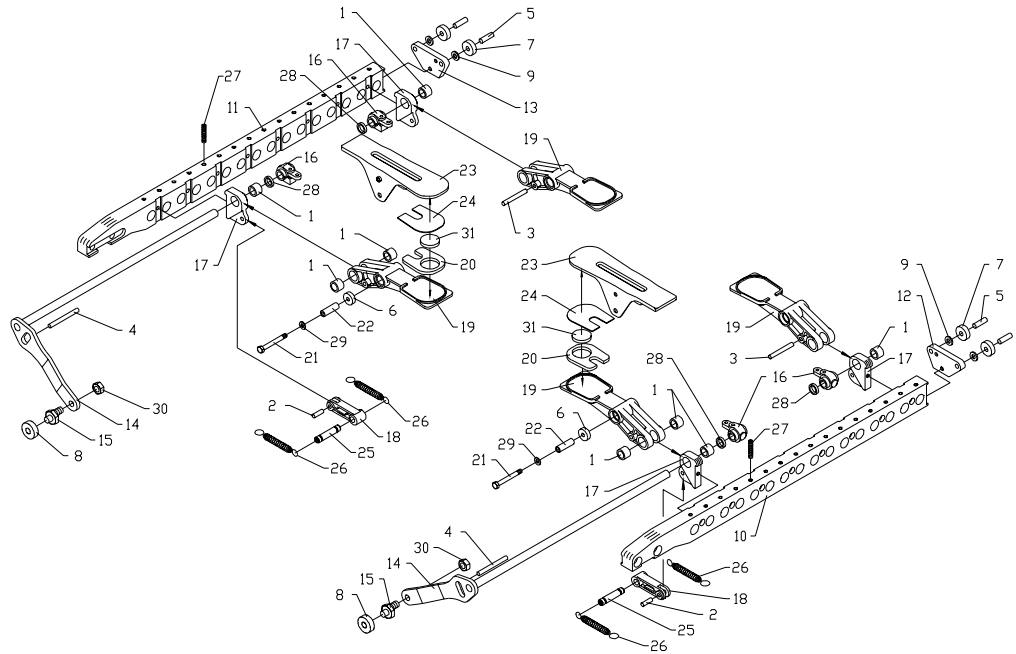

Figure 8-12
2. Remove the old pad (item 20 or 24 in Figure 8-12) by carefully lifting a corner of the pad and peeling it off. The pad should come off in one piece.
2. Remove the old disc (item 17 in Figure 8-12) by carefully prying it off with a flat head screwdriver.
2. Remove old spring (item 26 in Figure 8-12) if necessary.
3. Apply a liberal coating of CPI Grease Type GRS-460-F (p/n 82909400A) to the pivot points (item 21 in Figure 8-12) where the spring is attached.
4. Hook the large end of the spring onto the spring hook pivot pin (item 21 in Figure 8-12).
5. Take a 3" piece of 13 gauge music wire, or equivalent, and bend it in half leaving a 1/8" diameter loop at the end. Clamp the bent wire in locking pliers and use the loop to stretch the small end of the spring over the spring hook set screw (item 27 in Figure 8-12).